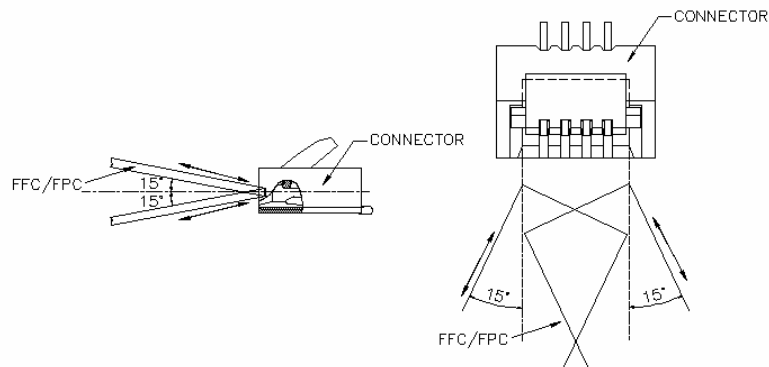

Figure 6.
- FPC/FFC to be insertion and withdrawal at an angle of about 15°, and the FPC/FFC should be inserted firmly all the way to the back. (see figure 6).